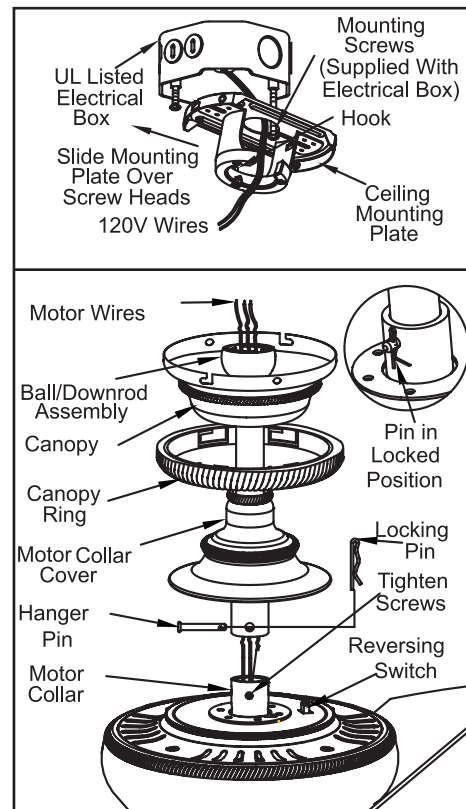

Figure 7
3. Route the wires exiting the top of the fan motor through the decorative motor collar cover then the canopy ring. Make sure the slot openings are on top. Route the wires through the canopy and then through the ball/downrod assembly (Figure 7).
- Align the holes at the bottom of the downrod with the holes in the collar on top of the motor housing (Figure 7). Carefully insert the hanger pin through the holes in the collar and downrod. Be careful not to jam the hanger pin against the wiring inside the downrod. Insert the locking pin through the hole near the end of the hanger pin until it snaps into its locked position, as noted in the circle inset of Figure 7.
1. Pass the 120-volt supply wires through the center hole in the ceiling mounting bracket as shown in Figure 7.